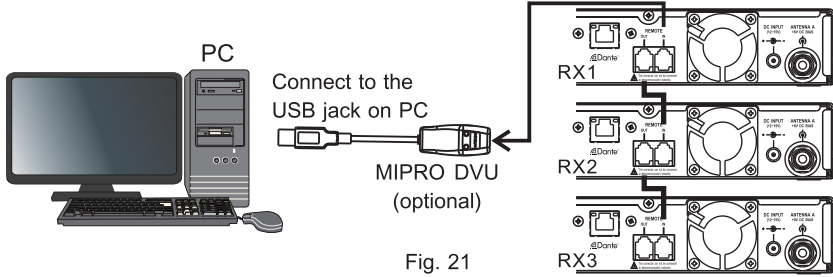

Fig. 21
2. MIPRO DV Wiring Instructions (optional). Fig. 21:
- (A) Use supplied hardware cable for serial connection to MIPRO receivers and PC network interface connector ⑬.
- (B) Next, use a USB connector to link the receivers' input interface connector via MIPRO DVU to a computer USB PORT.
- (C) Up to 64 receiver channels can be connected, remotely controlled and monitored.
- (D) The network cable length can be connected up to 300 meters, but the longer it is, the transmission quality will be more unstable. The ideal cable length for optimal transmission quality is less than 100 meters.